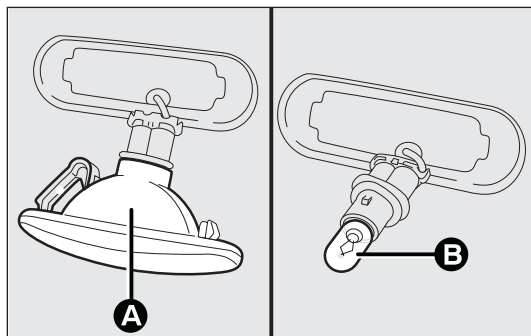

fig. 148
- ☐ remove the bulb B-fig. 148 and replace it;